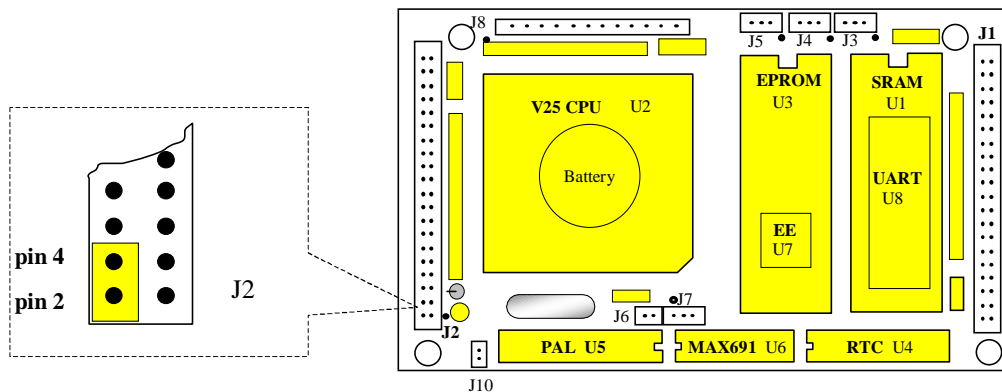

Figure 1.6 Location of Step 2 jumper on the V25-Engine/C-Engine
- Set the jumper on J2 pins 2 and 4 on the V25-Engine/C-Engine (Figure 1.6).